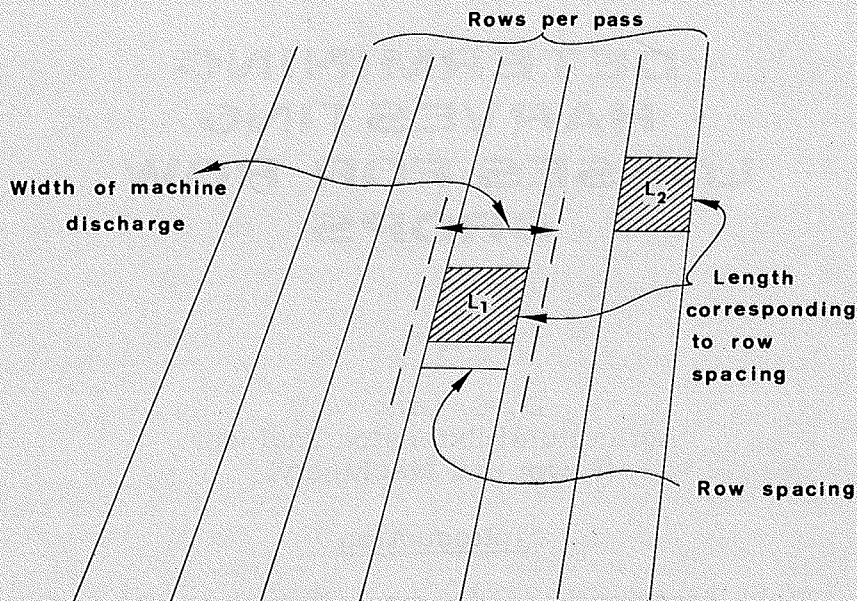

Fig 1.
1. Lay of areas L_1 and L_2 (see Fig. 1). L_1 should correspond to the row width and be in the discharged material, L_2 should be in the harvested area but not in the discharged material. For corn in 30" rows, L_1 and L_2 are 31" long (see Table 1).
4. Make a fraction, f , of row spacing over width of machine discharge, d (Fig. 1).